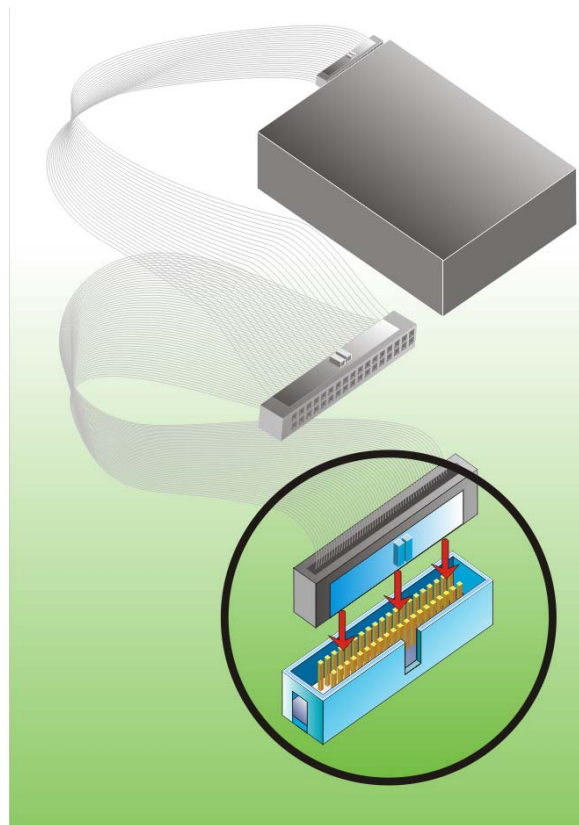

Figure 5-10: IDE Cable Connection
Step 2: Insert the connector. Connect the IDE cable connector to the onboard connector. See Figure 5-10. A key on the front of the cable connector ensures it can only be inserted in one direction.